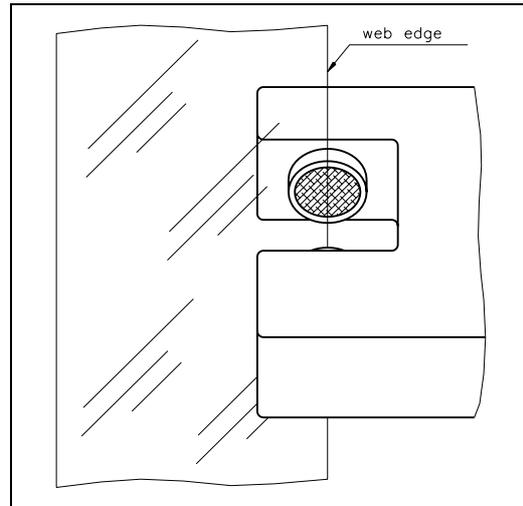

fig. 17: Aligning of the sensor axis to the web edge K100004e
- Align sensor axis to the web edge: Loosen the fixing nut on the bracket and adjust the sensor. Fix the sensor in the new position. The sensor will be positioned properly if the web edge goes through the sensor axis (center of active window; refer to fig. 17).